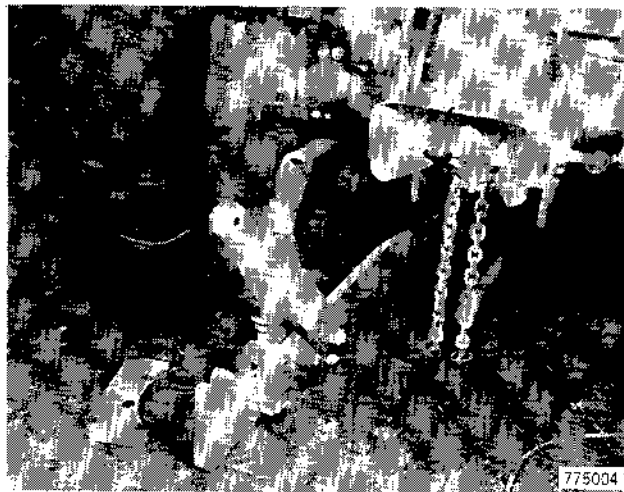

Figure 5
- b. Press bushings into axle until the bushing contacts shoulder in axle. One bushing goes into the front of the axle, two bushings are located in the rear of the axle, Figure 5.
5. If machine was equipped with backhoe, remove backhoe mounting arms, Figure 5. The arms weigh approximately 120 pounds (54 kg). Provide suitable lifting equipment or additional help when removing the arms.